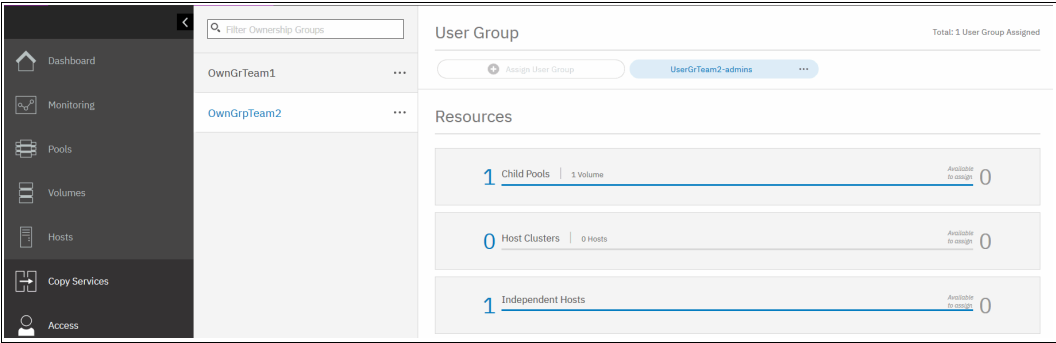

Figure 11-18 Resources of an ownership group
8. As shown in Figure 11-18, a volume and a host both belong to an ownership group. As a host and a volume are in a group, host mapping inherits ownership and becomes a part of an ownership group too.